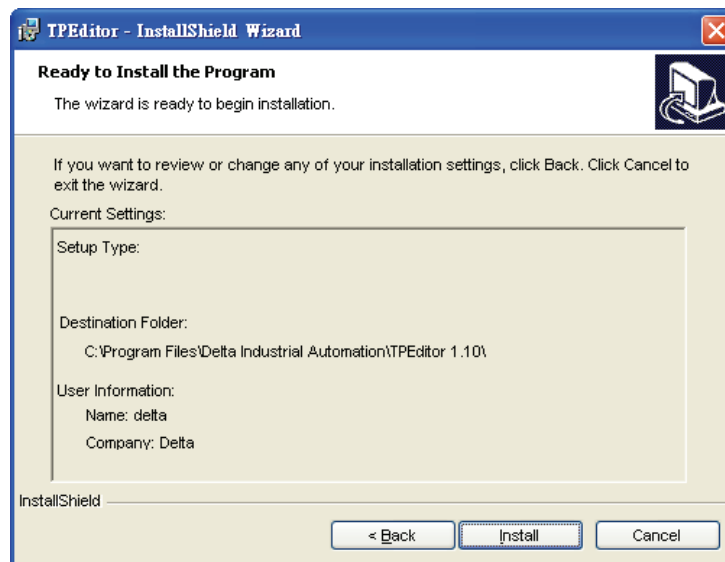

Figure 1-7
- Then, click **Next>**, the following tab (Figure 1-7) will display and ask the users to confirm the software installation. If necessary, click **<Back** to take the users back through Setup tabs one by one.